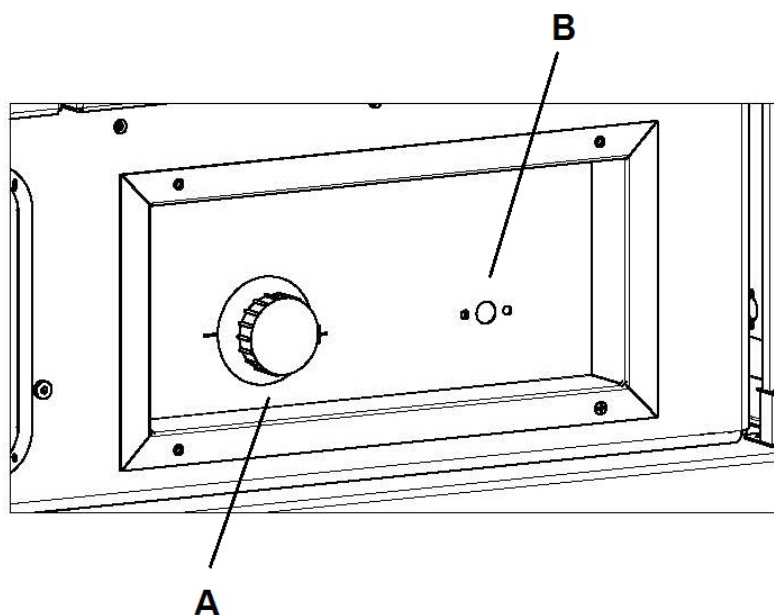
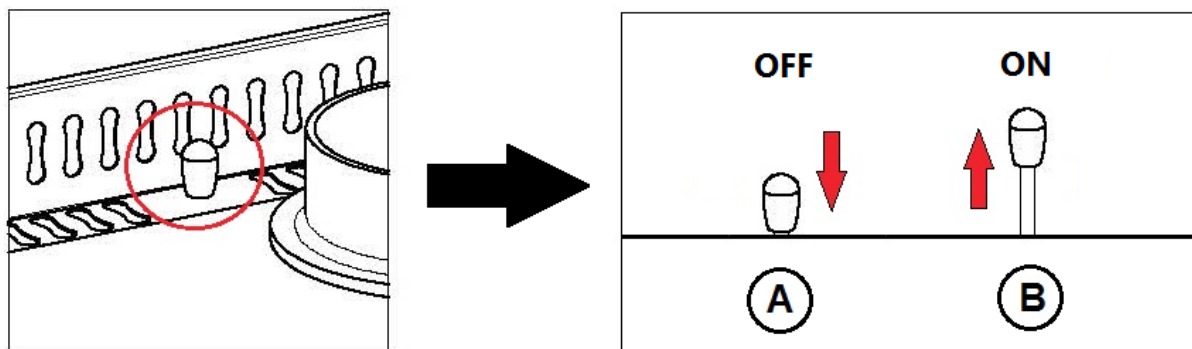
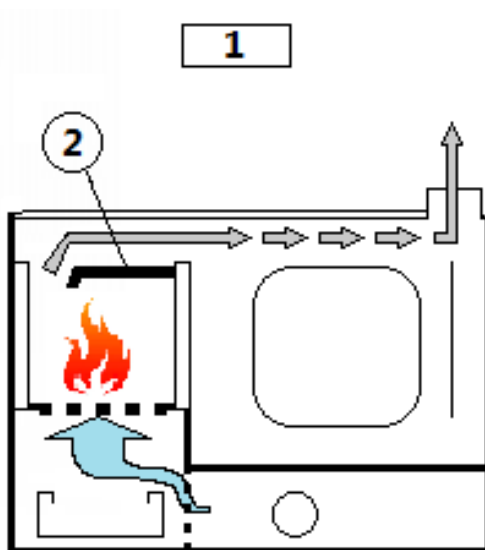
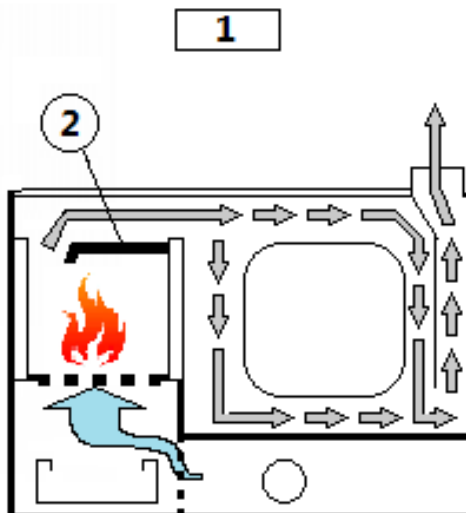

Fig. 27 - Main control panel
Fig. 28 - Smoke valve
Fig. 30 - Ignition
Fig. 31 - Heating-cooking
Smoke bypass (see Fig. 28 page 27): by lightening the boiler, turn fo 90° the knob to position B to allow the direct smoke passage to the flue duct, helping the starting of the flame and the heating of the flue self. After the starting, turn the knob back to position A (see ADJUSTMENT page 28).
LEGEND	Fig. 31 page 29
- Turn the selector (see Fig. 28 page 27) on ignition position to allow the direct flow of the smokes from the furnace to the flue. Open the rings on the cooking plane and put the internal deflector on right position (POS.A-B see Fig. 30 page 28 and Fig. 31 page 29). Turn to maximum the thermostatic air regulator (see Fig. 27 page 27).
- Open the furnace door (pos. 3) and introduce on the grid some paper and a small quantity of dry, thin wood, then light it on.
- Once ignifio is completed, turn smokes selector back to vertical position (see Fig. 28 page 27) and turn the
- Once ignition is completed, turn the smoke buffel (see **Fig. 28 page 27**) to vertical position (A) to exploit the must of boiler's power to central heating (even for normal cooking and oven baking).
- Verify the inthermal deflector is en right positions as shown (see **Fig. 31 page 29**). In this position, the smokes turn is longer allowing a better thermal exchange to central heating and plate cooking.
- Turn the thermostatic regulator (see **Fig. 27 page 27**) to choose the right quantity of combustion air, increasing or decreasing the combustion speed. The thermostatic regulator will automatically works based on the boiler water temperature avoiding fuel waste and avoiding water overtemperature.
- Once ignition is completed, turn the smoke buffel (see **Fig. 28 page 27**) to vertical position (A) to exploit the must of boiler's power to central heating and also for plated cooking and oven backing.